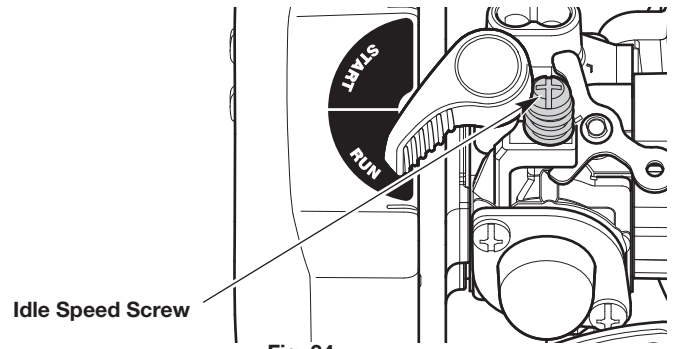

Fig. 34
- If the engine stops, increase the idle speed. Use a small Phillips screwdriver to turn the idle speed screw clockwise, 1/8 of a turn at a time, until the engine idles smoothly (Fig. 34).
- If the cutting head spins when the engine idles, reduce the idle speed. Turn the idle speed screw counterclockwise, 1/8 of a turn at a time, until the cutting head stops moving (Fig. 34).